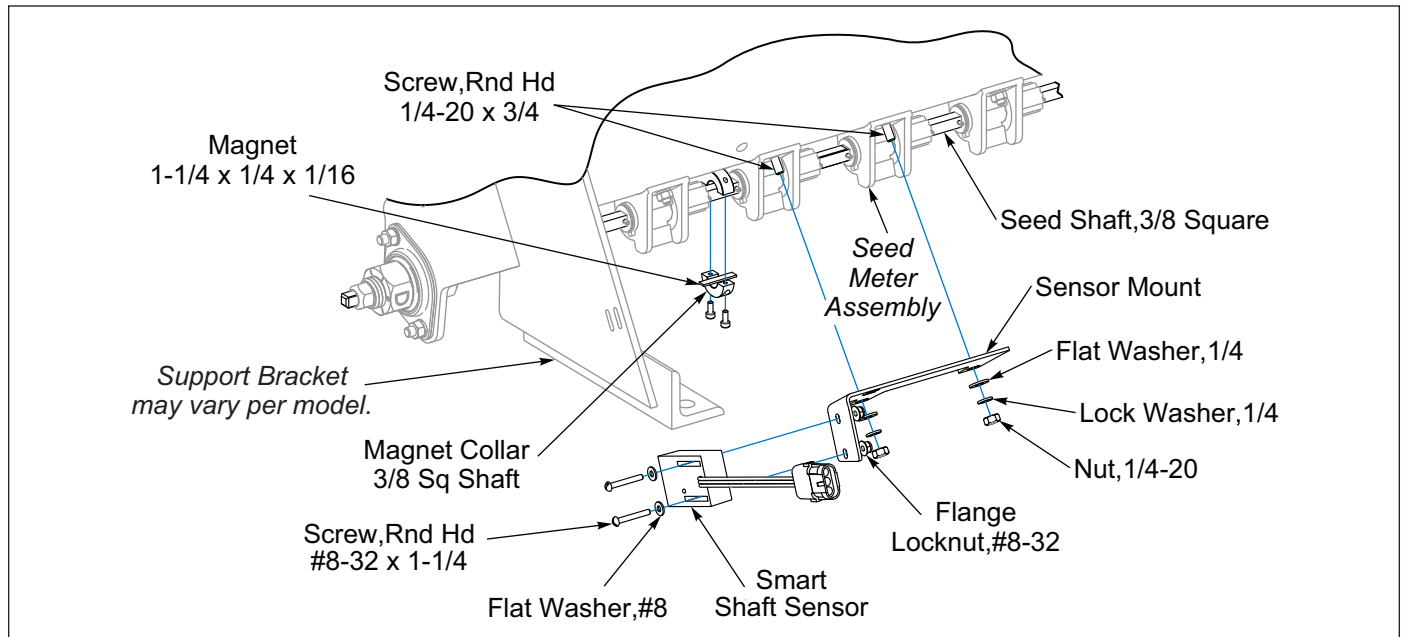

Figure 2-35: Brillion Elite Mini Monitor - Front Seed Box Seed Shaft Sensor
3. Front RH side Seed Box between the 1st and 2nd Seed Meters, place 1-1/4 x 1/4 x 1/16 Magnet on the Seed Shaft. Secure with Magnet Collar. **See Figure 2-35.** Remove the 2nd and 3rd Seed Meter front 1/4-20 x 5/8 Round Head Machine Screws that mounts the Seed Meter to the Seed Box and replace them with 1/4-20 x 3/4 Round Head Machine Screws. Install the Sensor Mount on the 1/4-20 x 3/4 Machine Screws. Secure with Flat Washers, Lock Washers and Nuts. Install a Smart Shaft Sensor to the Sensor Mount with sensor provided hardware and #8-32 Flange Locknuts. Adjust the Smart Shaft Sensor so that it is 1/8" Max away from the Magnet Collar on the